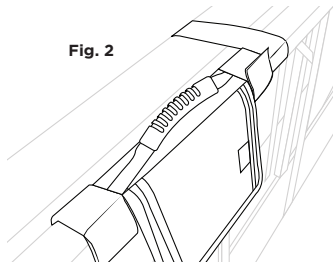

Fig. 2
- ii. Ensure the grab handle stays on the top of the back rail. [fig. 2]